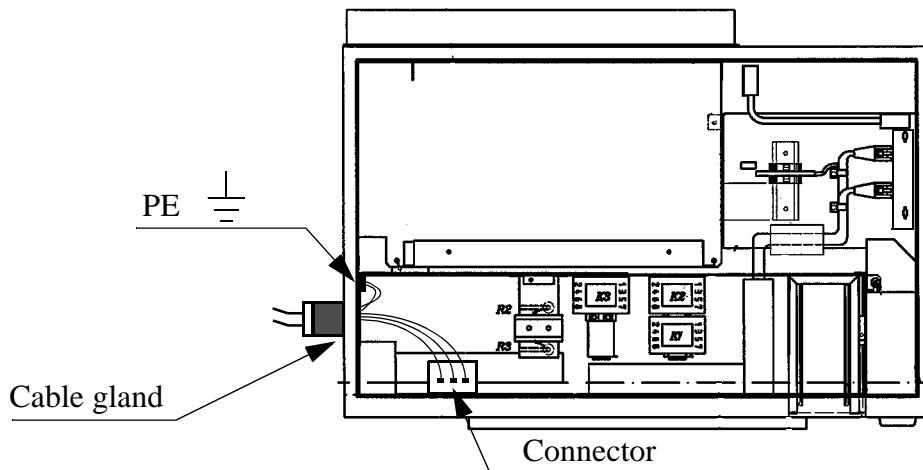

Figure 17 Mains connection inside the cabinet.
A gland for the mains cable is located on the left cabinet wall. Pull the mains cable through the gland (see Figure 17).
1. Release the connector from the knob by **depressing the red button** located on the upper side of the connector (see Figure 17).